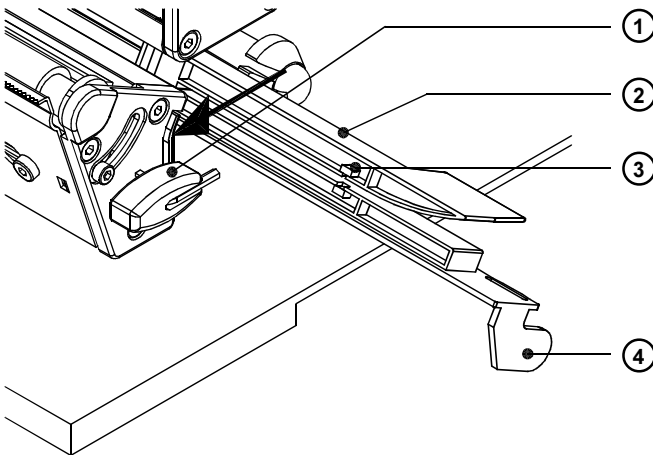

Fig. 10 Cleaning the Label Edge Sensor
2. Press the latch (1) in the direction of the arrow in figure 10.
3. Continue pressing the latch and pull the label edge sensor (2) with the handle (4) to its outermost position.
4. Clean the label edge sensor and its optical sensors (3) with a soft brush or a cloth dipped in isopropyl alcohol.